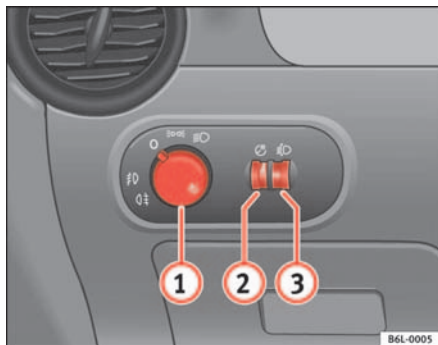

Fig. 56 Detail of the dash panel: Switch for lights, fog lights and rear fog light
- Turn the light switch \Rightarrow fig. 56 to position \Rightarrow .